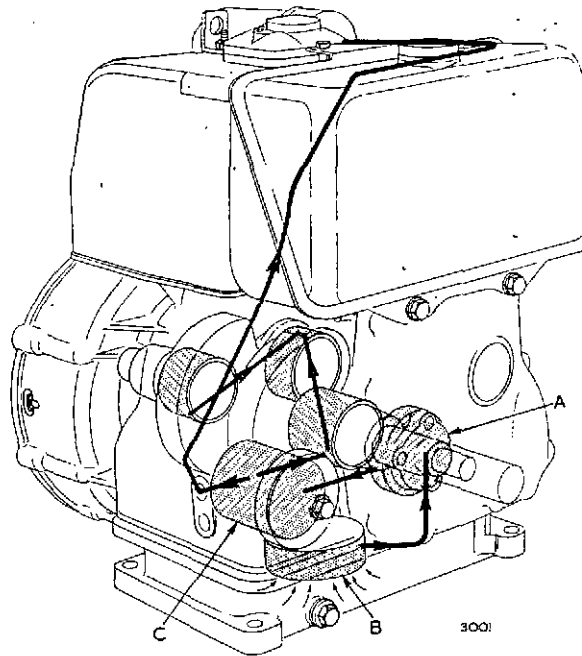

Fig. 11
47. Lubricating oil system (Fig. 11)
- (i) A rotary oil pump (A) is mounted in the crankcase at the gear end. The pump is driven by a gear from the camshaft.
- (ii) Oil is drawn through a strainer (B) and fed to the filter (C).